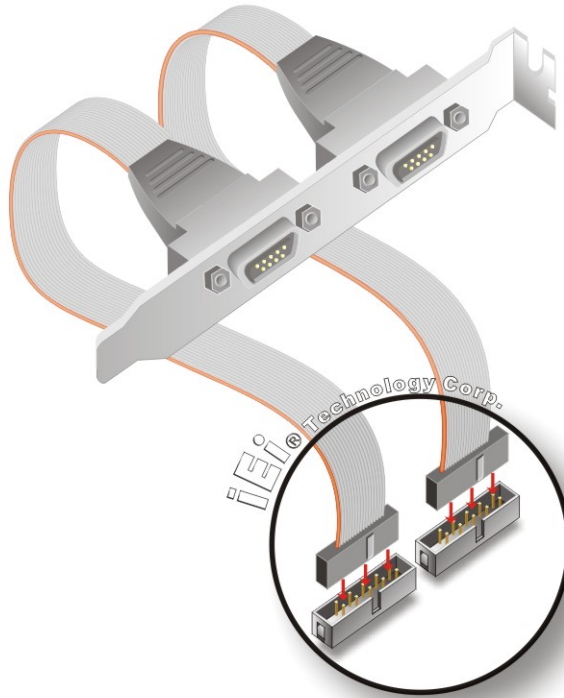

Figure 4-10: Dual RS-232 Cable Installation
Step 2: Insert the cable connectors. Insert one connector into each serial port box headers. See **Figure 4-10**. A key on the front of the cable connectors ensures the connector can only be installed in one direction.